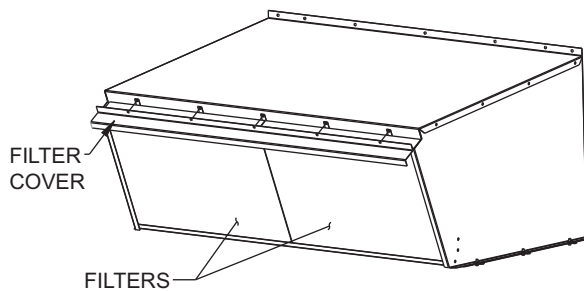

Fig. 29 — Filters and Filter Cover
14. Slide two 20 x 25 in. filters into cross members of hood assembly. Attach filter cover over filters with screws and speed clips provided. See Fig. 29.